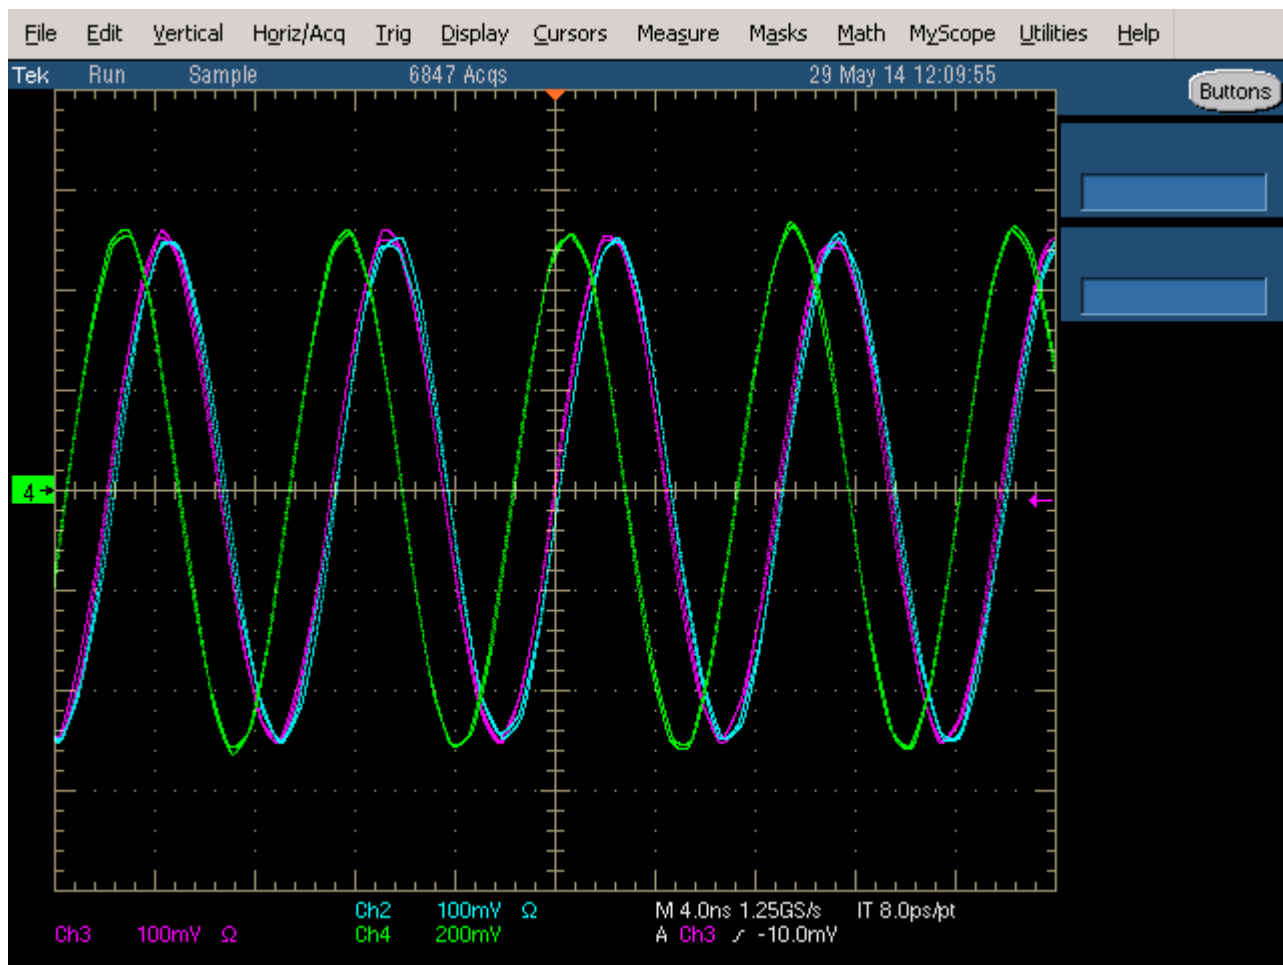

Figure 7. DAC Outputs Scope Display
7. Click Download () and Play (). The spectrum in figure 7 will appear on all 4 DAC outputs (J17, J4, J5, and J14), Serial Line Rate will be 7.5Gps.